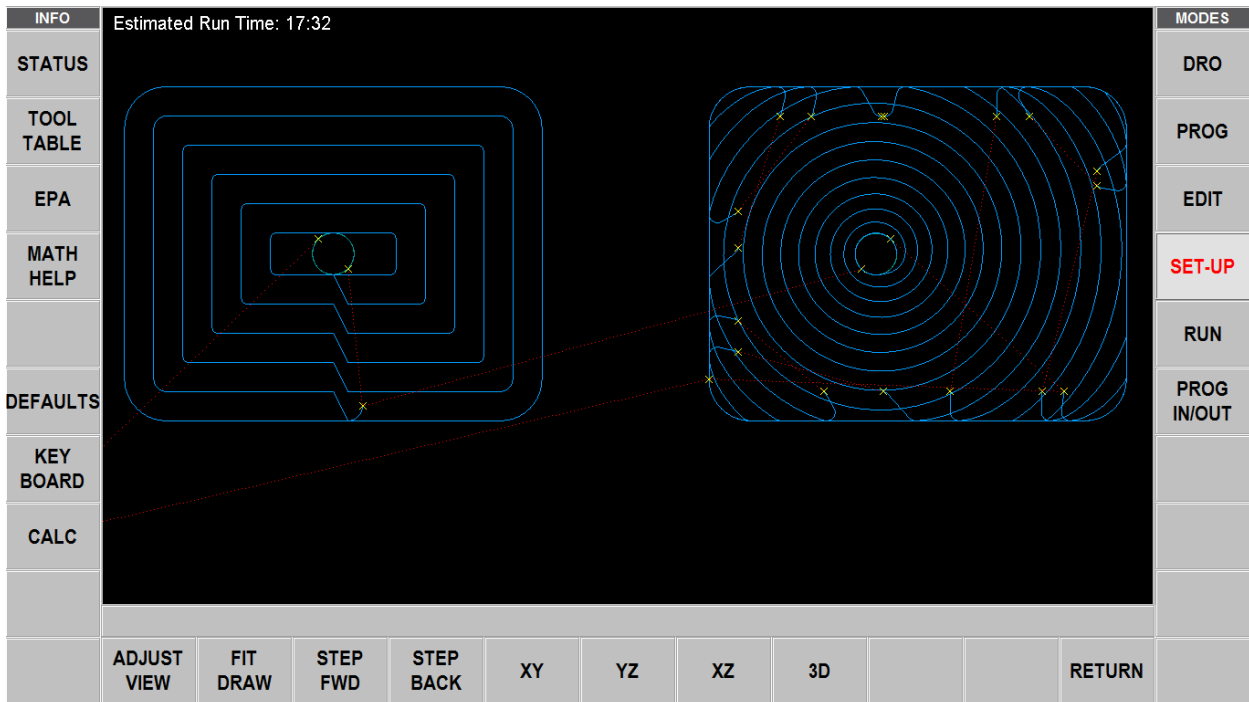

Figure 6.5.1 (7) Offset tool path on the left, Adaptive on the right.
Note: In Figure 6.5.1 (7) above, the link length is set to a small value, hence the many rapid moves.